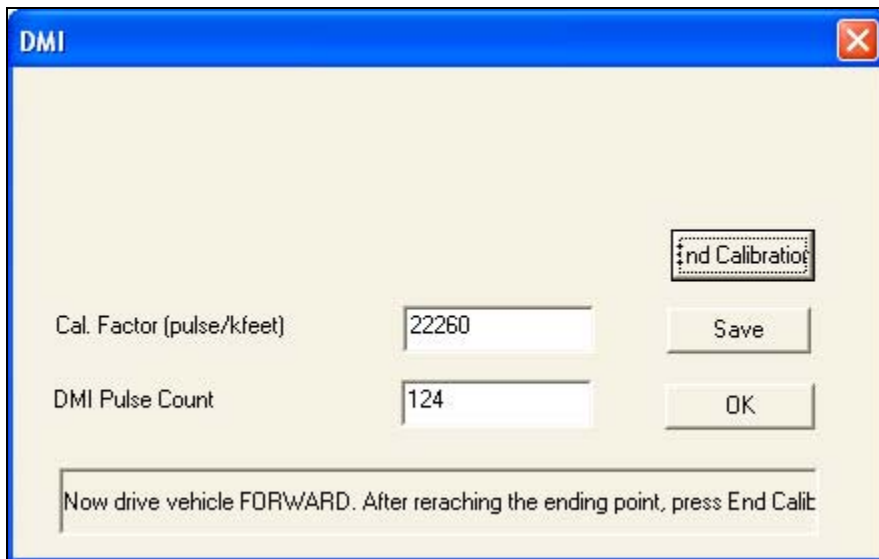

Figure 23. Beginning Screen for DMI Calibration.
- Press the Start button; the screen shown in Figure 23 appears.